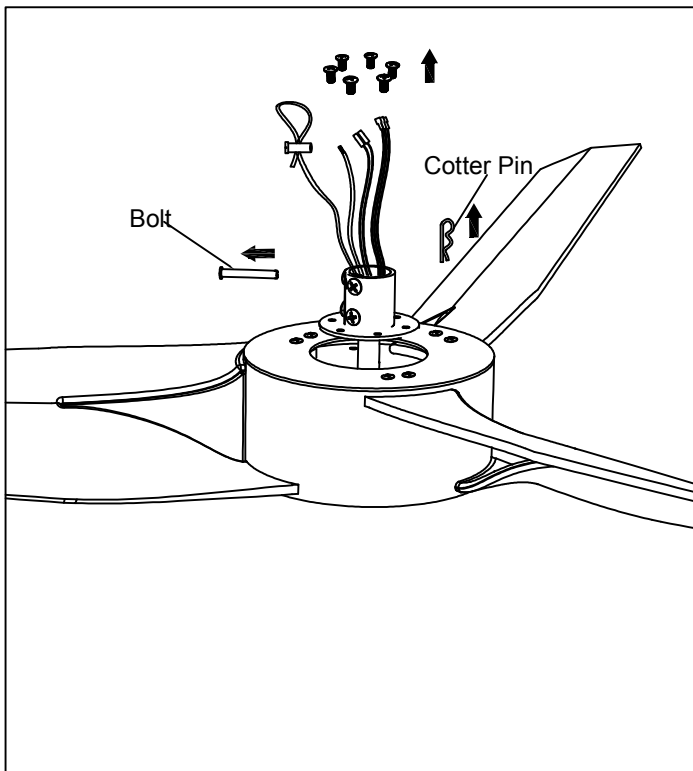

Figure 2.1
- Remove the six screws, bolt and cotter pin from the motor.(Figure 2.1)